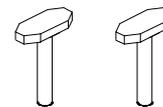

Figure 2-6
- HSS Pin (HSSPIN) - Plastic pins inserted through the HSSBASE to secure it to the mainboard (two required per Assembly). (Refer to Figure 2-6)